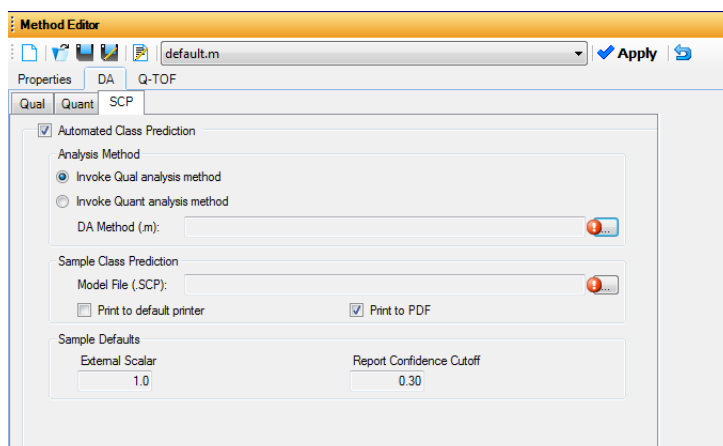

Figure 183 SCP tab immediately after marking Automated Class Prediction
- Click on the **SCP** tab within the DA tab (see Figure 183).
When **Automatic Class Prediction** is marked you must enter an analysis method and sample class prediction model (see Figure 183).